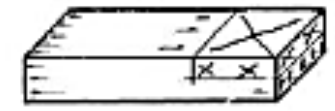

Fig. 2
- (c) Make lines square at the shoulder of the pin, drawing them across the side and halfway down the edges, with a try square and pencil (Fig. 2). Mark the waste.
- (f) Gauge the thickness of the pin around its edges and mark the waste (Fig. 2).